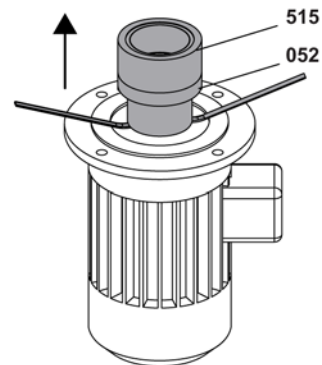

Fig. 2
4. Pull the coupling hub **052** and outer rotor **515** off from the motor shaft using mounting levers, see Fig. 2. Heating the coupling hub and the outer rotor to approx. 80 °C facilitates dismantling.